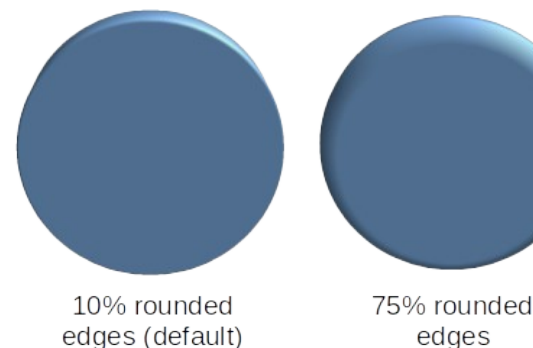

Figure 12: Example of rounded edges
- *Rounded edges* – enter the amount required to round the corners of a 3D shape as shown by the example in Figure 12. The default setting for rounded edges is 10%.